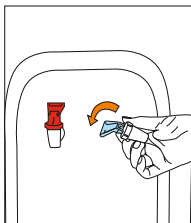

Figure 37
6. Remove the faucets from the reservoir elbows by turning them counter clockwise (Figure 37).